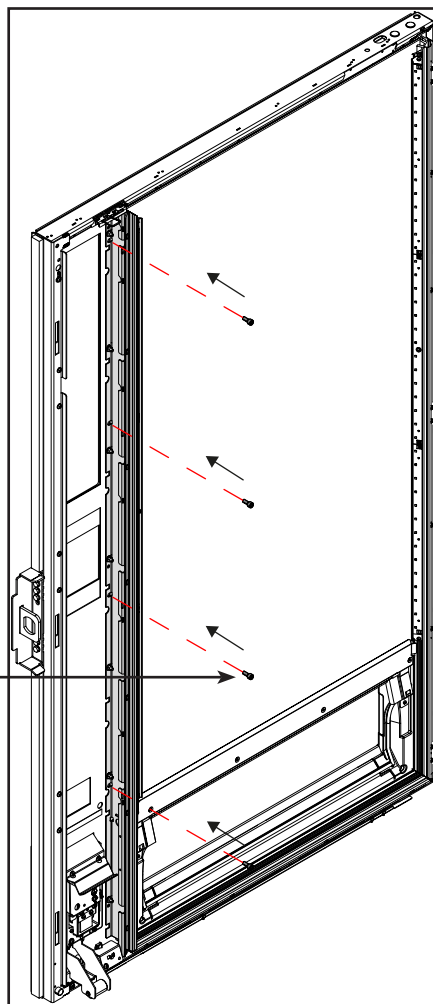

Figure 32
2. Install 4x hexagon socket cheese head screw (size 5) (Fig. 32).